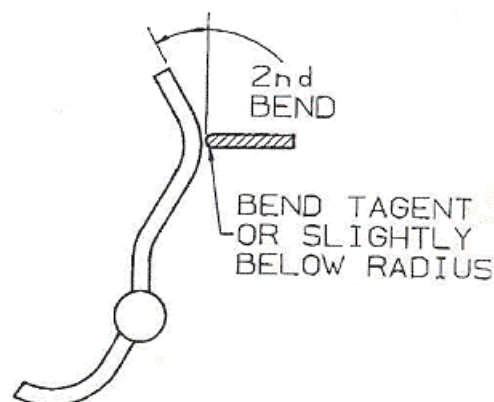

Figure 3-9. S&K pin adjustment if reading is low at 60 mmHg.
26. Remove the test pointer and test dial. Position the calibration tool over the adjusting pin and push it down to the cross shaft. Lift the tool approximately 1/16 inch and bend the pin approximately 15 degrees. See Figure 3-9. While maintaining this position, lift the tool to point where the pin makes contact with the gear sector. Bend the pin down 30 degrees. Remove the tool and release the gear sector. Check for gear sector starting position as defined previously. Adjust if necessary. Re-assemble the test dial and test pointer. Recheck the span and adjust as necessary prior to inspection at the intermediate points.